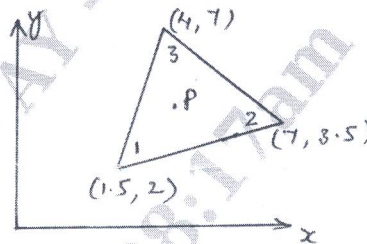

Fig. Q5 (b)
- b. For the triangular element shown in Fig.Q5 (b). Determine Jacobian matrix and also shape function at points P(3.85, 4.8) (10 Marks)